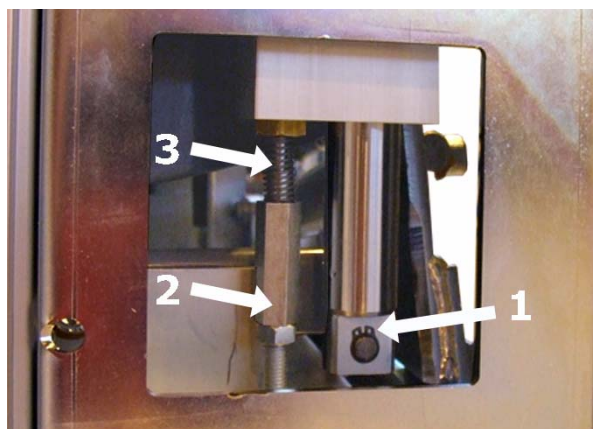

Figure 43: Parts in the bottom of the pump: retaining ring (1), connecting rod (2) and compression spring (3).
9. Remove the retaining ring from the bottom of the pump, see figure 43.